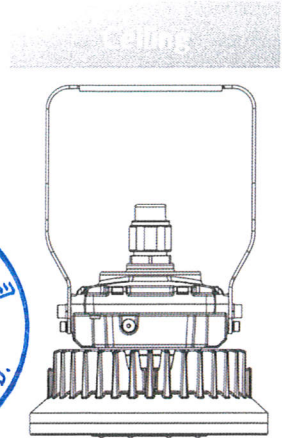

Figure 1
- ☞ The mount bracket is for the use of both ceiling mount (Figure 1) and wall mount (Figure 2).